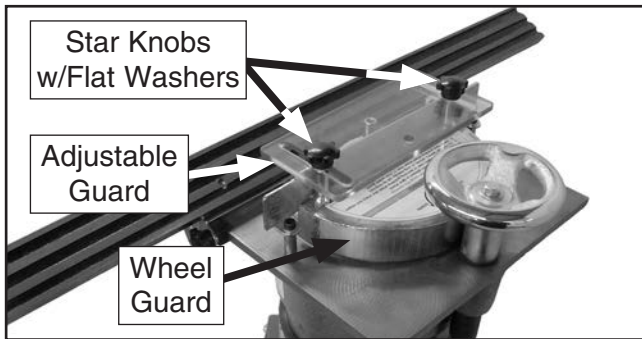

Figure 10. Adjustable guard installed (slide bar, knife clamp installed for illustration purposes).
1. Install adjustable guard on pre-installed wheel guard using (2) $\frac{1}{4}$ "-20 x $\frac{1}{2}$ " star knobs and (2) $\frac{1}{4}$ " flat washers, as shown in **Figure 10**.